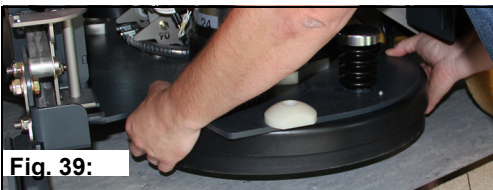

Fig. 39:
3. Raise the brush/pad and press it firmly into the holder **Fig. 39**.
When raised, the wiper can be fixed into position with the locking lever **Fig. 39-A**.